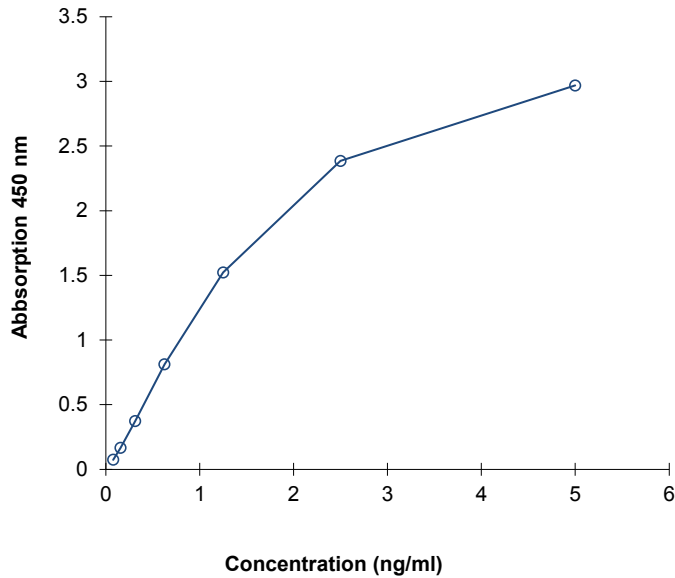

Fig. 8 Representative standard curve for human C5a ELISA. Human C5a was diluted in serial 2-fold steps in Calibrator Diluent.
- A representative standard curve is shown in Figure 8.